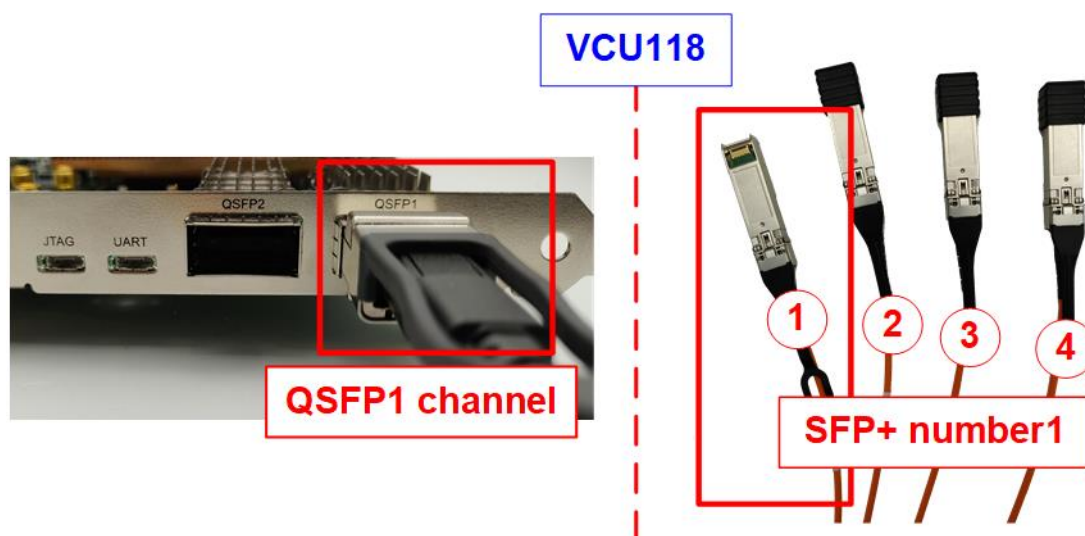

Figure 1-10 QSFP+ channel using on VCU118 board
- b) For VCU118, insert QSFP+ to 4 SFP+ cable between FPGA board and PC. Use SFP+ no.1 to connect to QSFP1, connector on the right side, as shown in Figure 1-10.